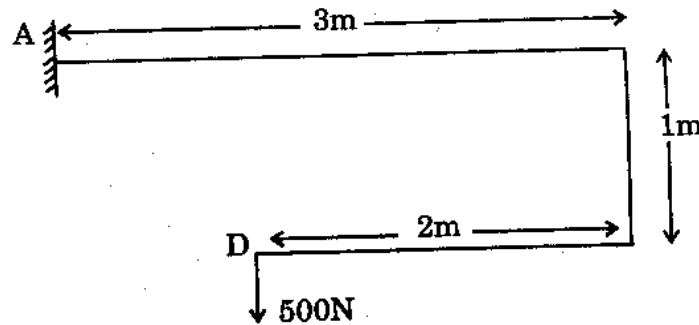

Figure. 1
13. A mild steel bar 100 mm diameter is bent as shown in fig 1. It is fixed horizontally at A and a load of 500 N hangs at D. Draw the bending moment diagram for the parts AB, BC and CD indicating the maximum values. Find the maximum bending stress. Also find the deflection at D. Take $E = 2 \times 10^5 \text{ N/Mm}^2$.